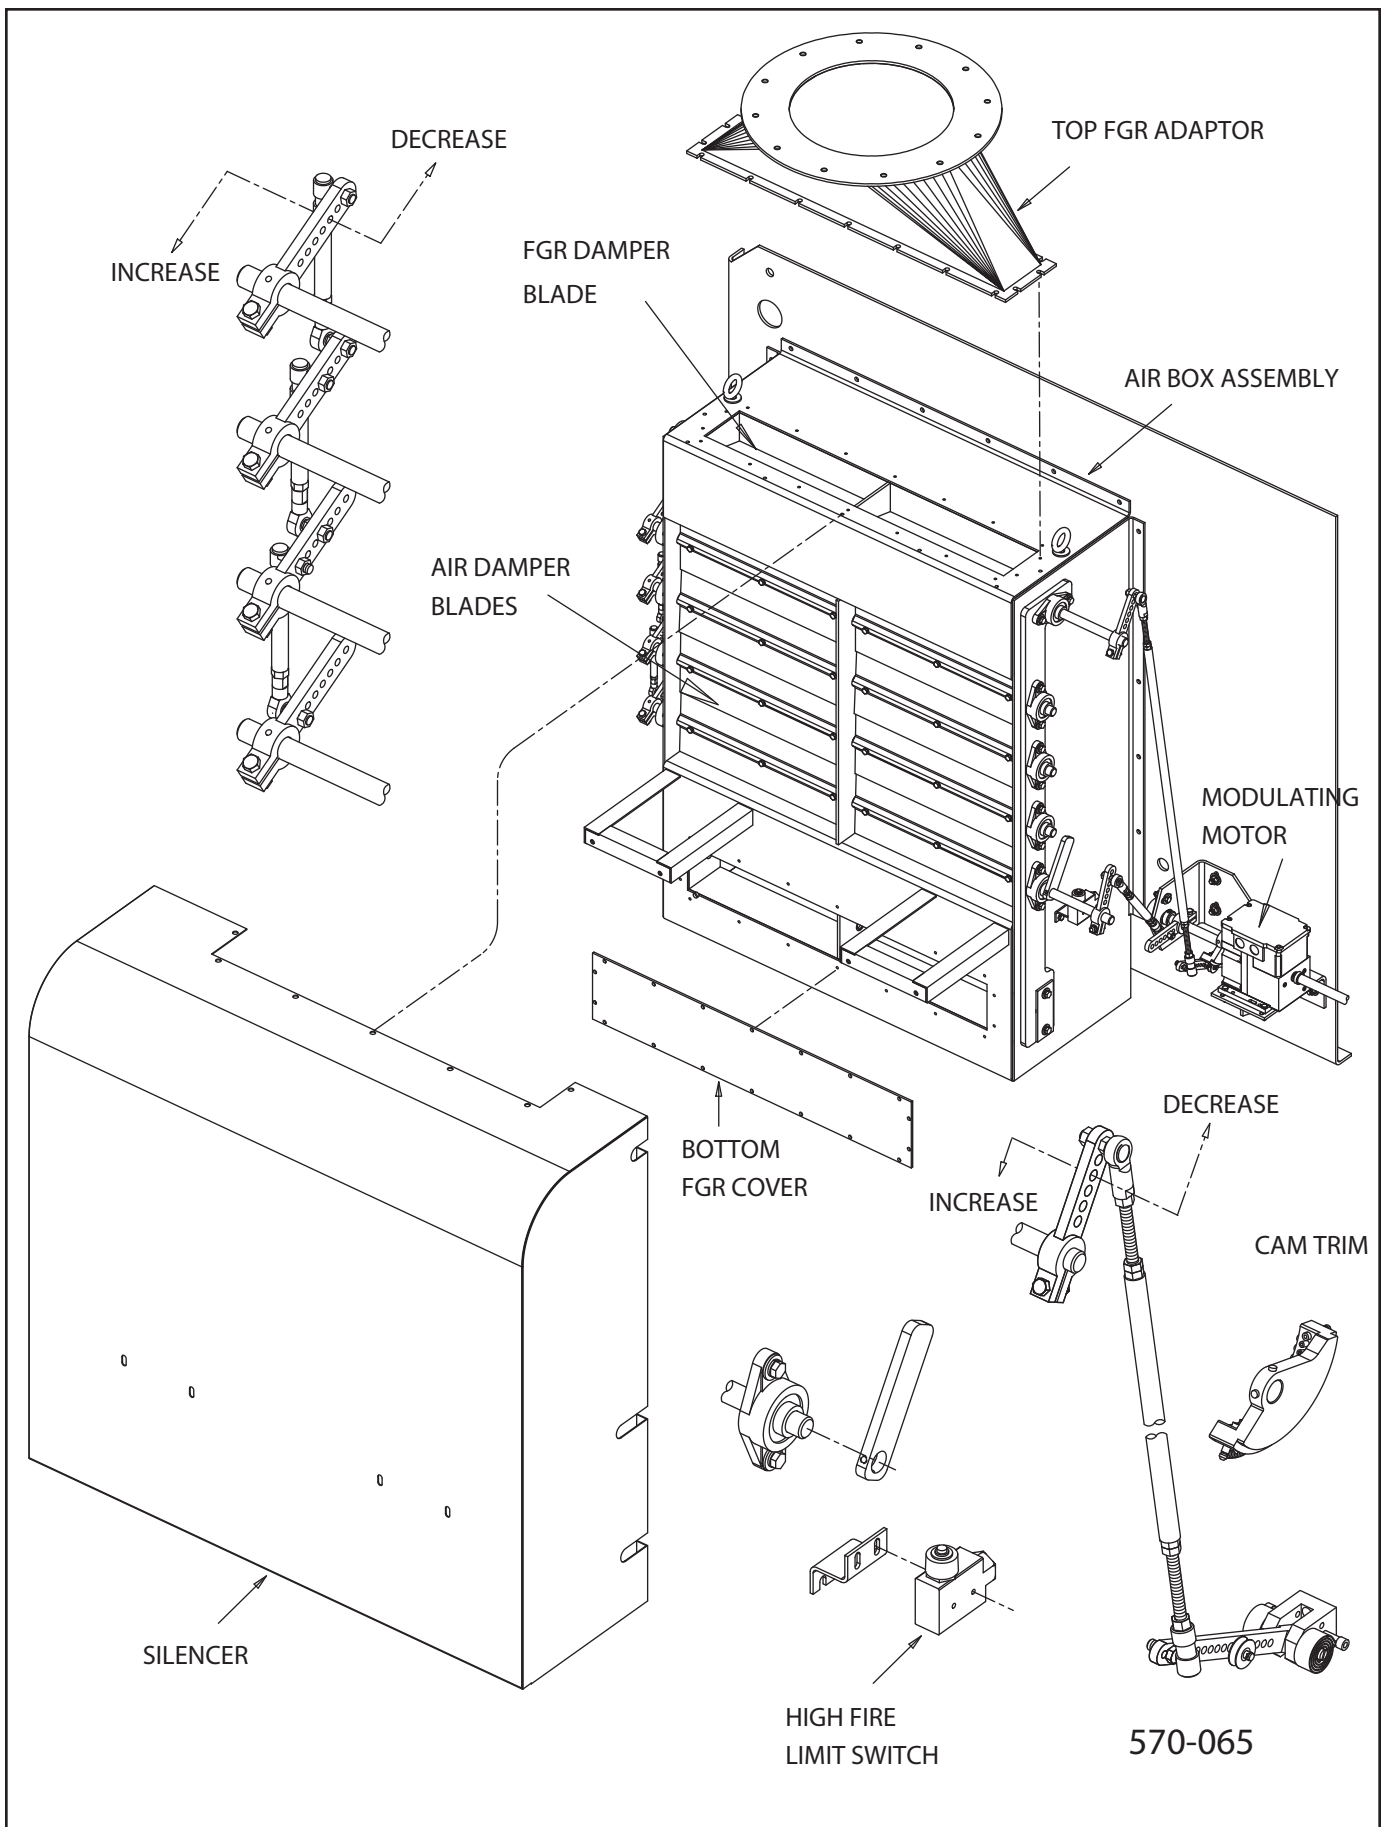

Figure 7-3
B. F.G.R. DAMPER ASSEMBLY (Figure 7-3, 7-4)